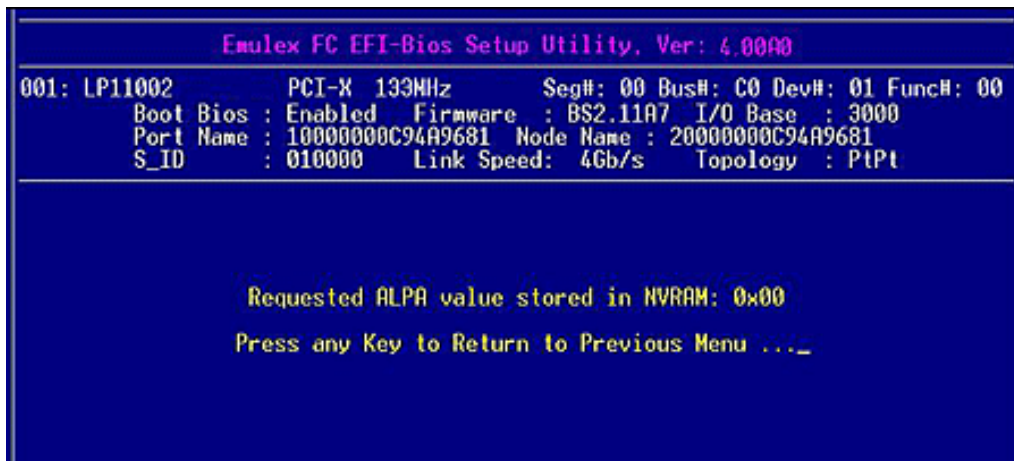

Figure 6-10 Default ALPA Setup Screen
1. On the Adapter Configuration menu, select **1. Default ALPA of this adapter** and press **<Enter>**. A screen similar to Figure 6-10 is displayed.